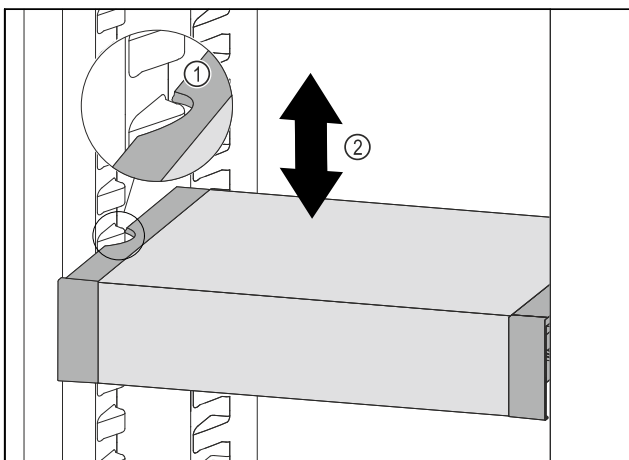

Fig. 155
- ▶ Pull VarioSafe forwards until the recesses in the side of the VarioSafe are at the level of the support rib in the refrigerator compartment. *Fig. 155 (1)*
- ▶ Move VarioSafe up or down in the refrigerator compartment until the desired height is reached. *Fig. 155 (2)*